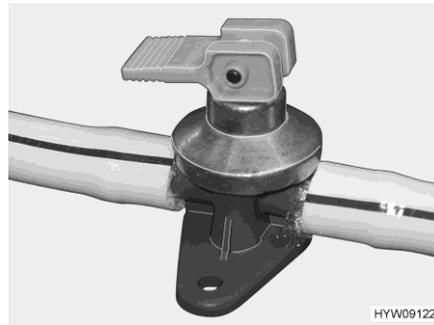
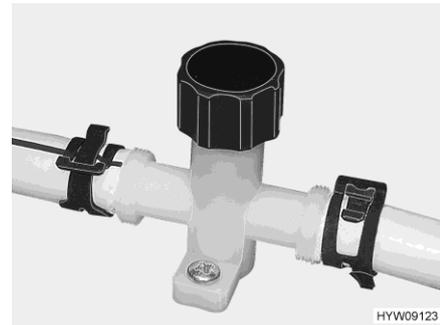

Fig. 103 Drain cock (boiler)
Fig. 104 Drain cock (water pipe)
- Open all drain cocks (Fig. 103 or Fig. 104). Position, see section 10.2.2.